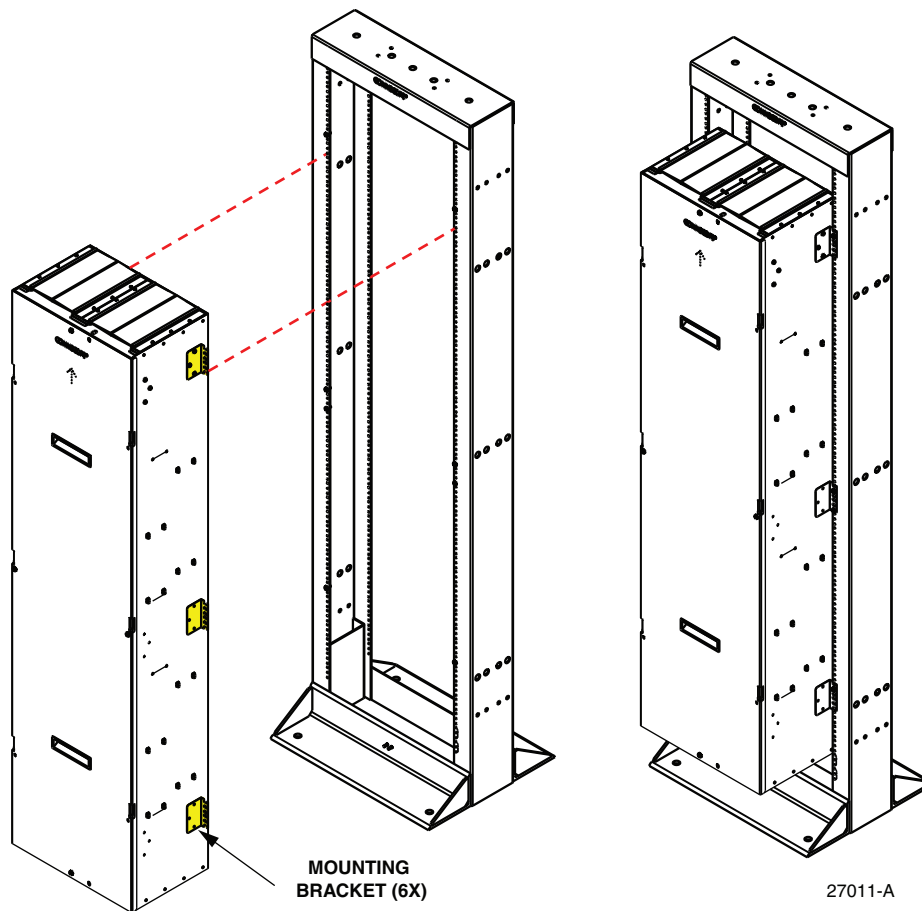

Figure 7. Mounting the Splice Cabinet on an Equipment Rack
2. Fasten the splice cabinet to the rack with #12-24 screws and lock washers, as shown in Figure 7.